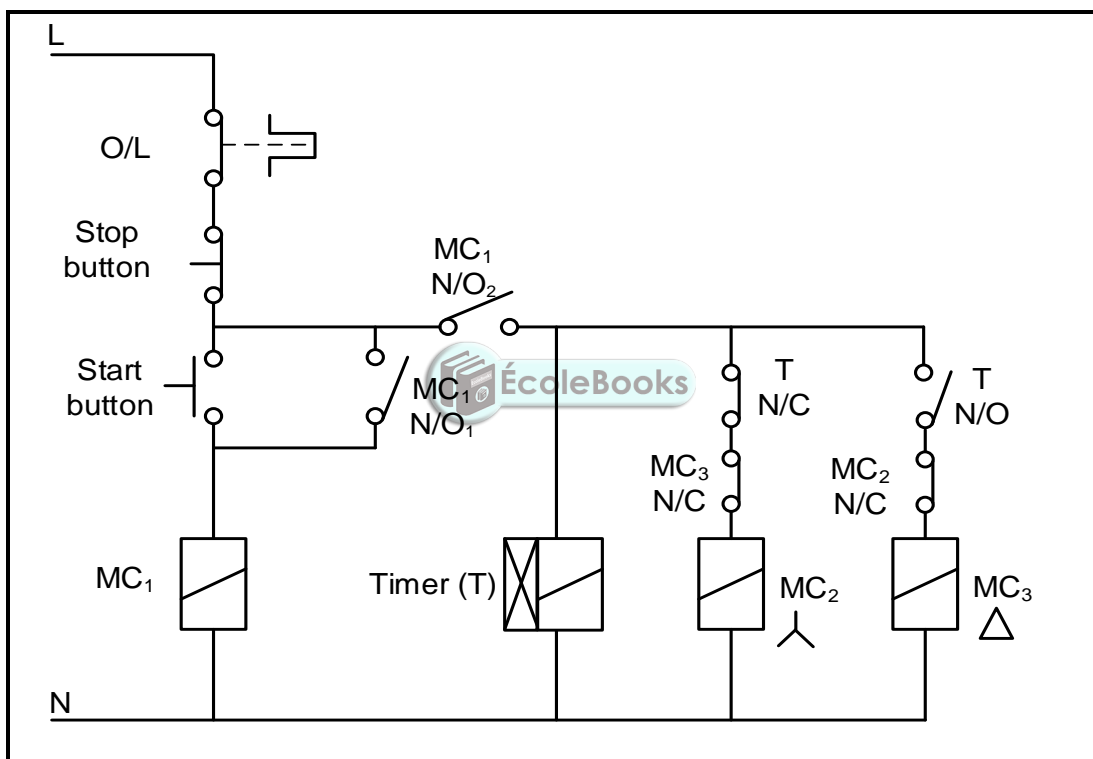

FIGURE 5.4: STAR-DELTA CONTROL CIRCUIT
- 5.4 Refer to FIGURE 5.4 below and answer the questions that follow.